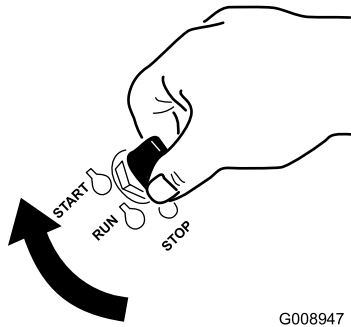

Figure 16
1. Turn the ignition key to the Start position (Figure 16). When the engines starts, release the key.